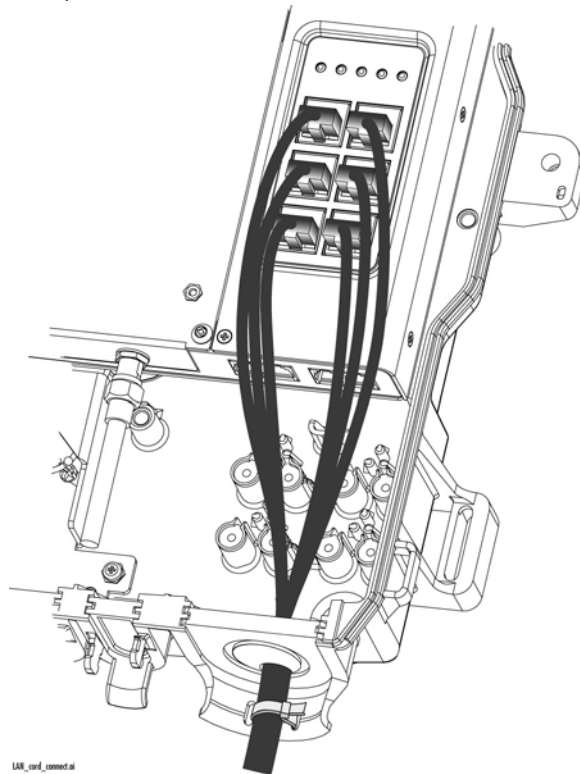

Figure 11. Connecting the LAN Cables (Phone lines omitted for clarity)
4. Secure the wires with a wire tie, as shown in Figure 11. (This step will include the telephone wires if you have installed the phone wires.)